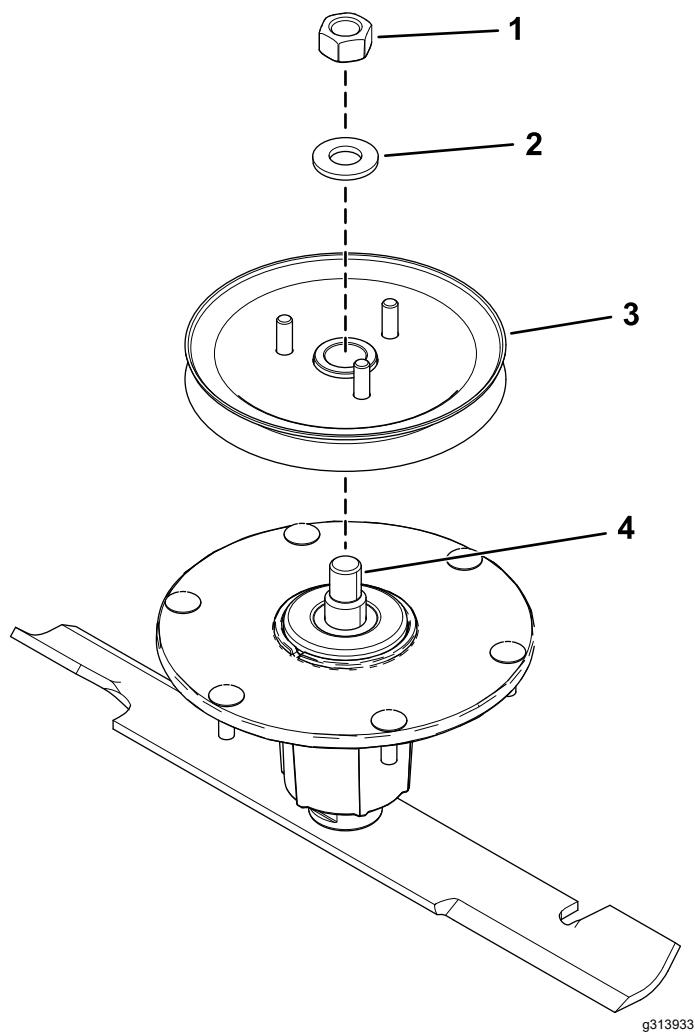

Figure 7
3. Install the sheave assembly to the spindle using the washer and top nut (Figure 7).